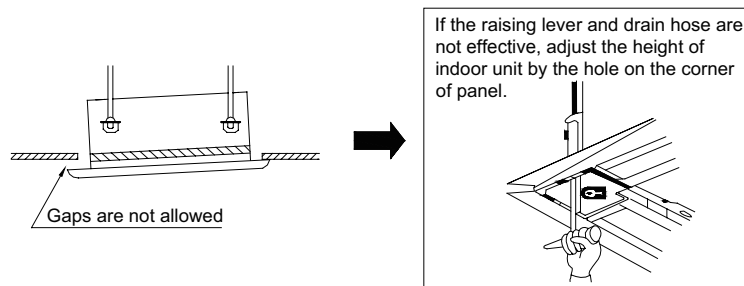

Fig.15
2). If a gap still exists between ceiling and decorative panel after tightening the screws, readjust the height of the indoor unit. (As shown in Fig.15)